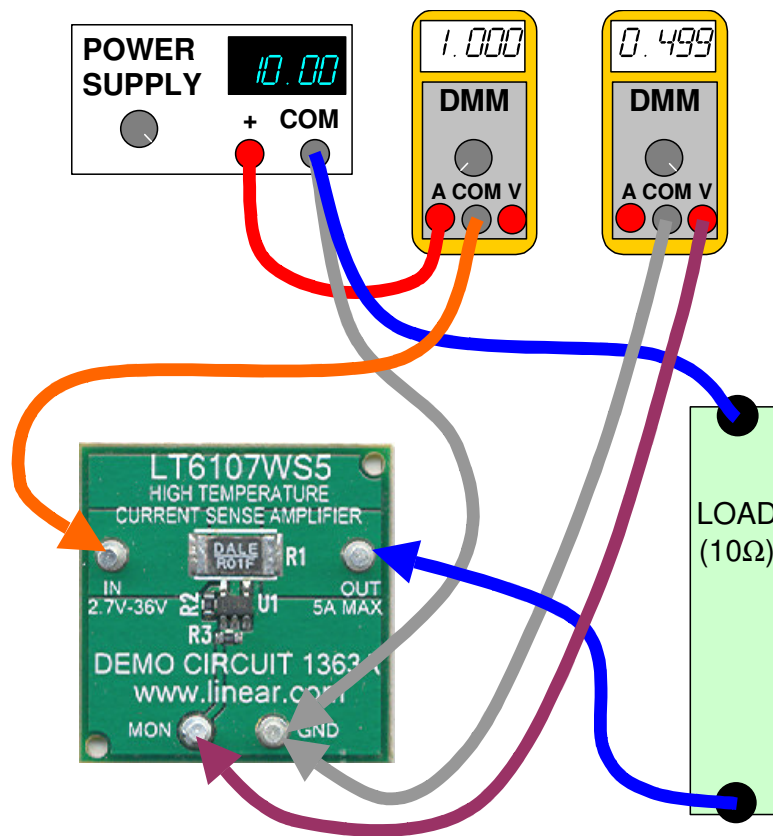

Figure 1. Proper Measurement Equipment Setup
Demonstration circuit 1363 is easy to set up to evaluate the performance of the LT6107. Refer to Figure 1 for proper measurement equipment setup and follow the procedure below:
1. With power off, connect the power supply positive to IN and the common to GND. This supply should be in the range of 2.7V to 36V. If this supply is not equipped with an accurate current readout, a DMM (set to measure Amperes) may be connected in series with the supply as shown in Figure 1.